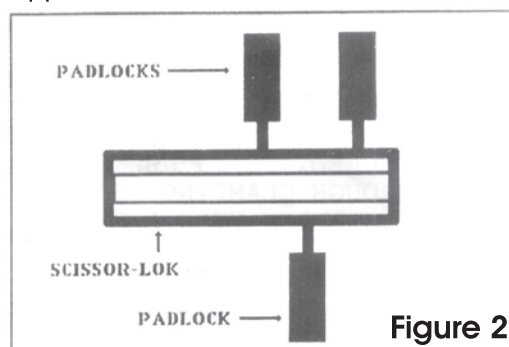

Figure 2
- 3 Feed cable through clamping slot (or clamping hole) and pull tight. Close handle and install 1-3 padlocks as needed. (See figure 2.)